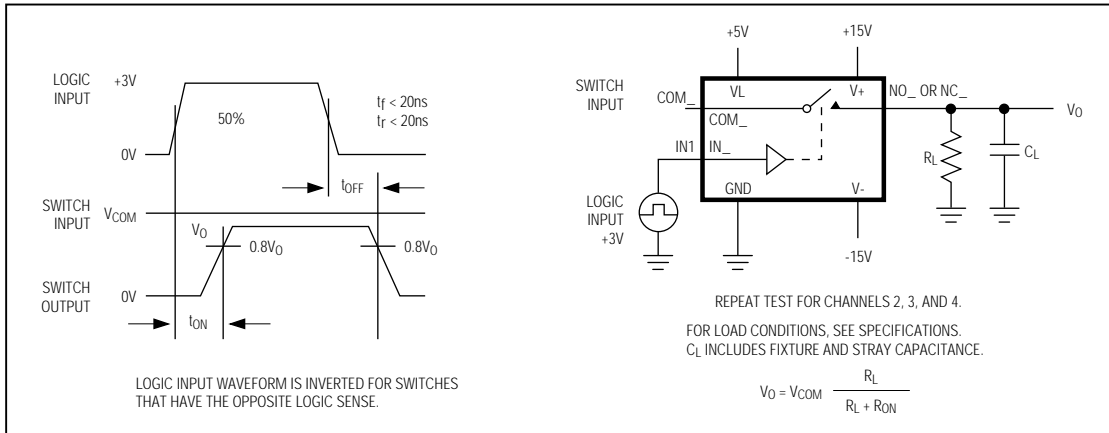

Figure 2. Switching-Time Test Circuit
**Note 5:** See Figure 2. Off Isolation =  $20 \log_{10} \left( \frac{V_{COM}}{V_{NC} \text{ or } V_{NO}} \right)$ , VCOM = output, VNO or VNC = input to off switch.